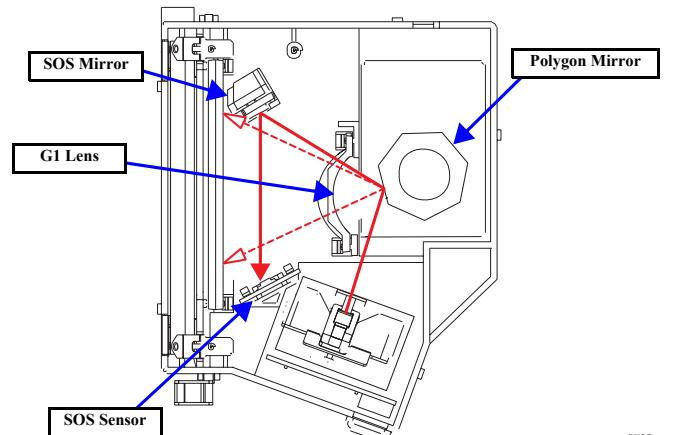

Figure 2-9. Laser Emission Timing
- When the Ready signal is detected upon passage of a certain period of time after issue of the printing start signal, the Laser ON signal is output from the Mechanical Control Board. (See "Figure 2-9")